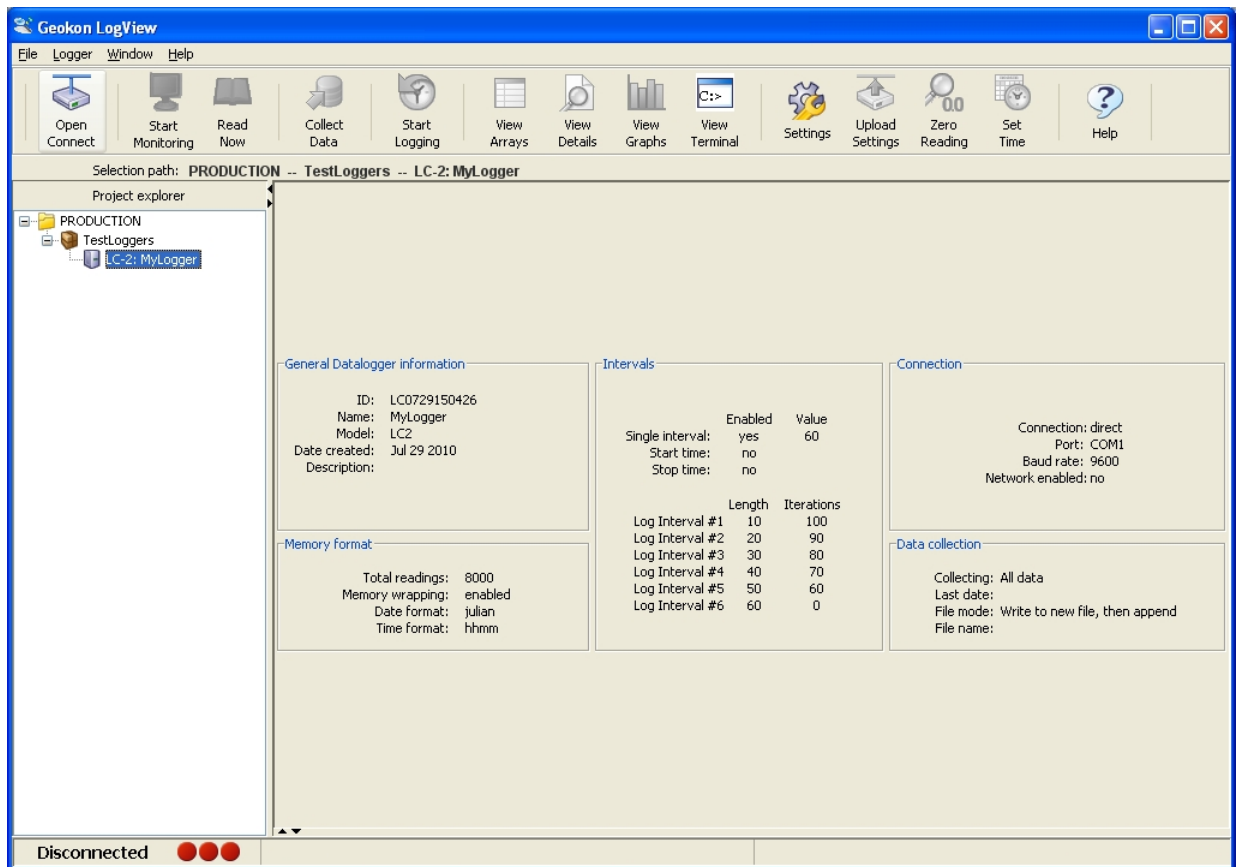

Figure 16 - Datalogger Highlighted, Not Connected
- 1) With a Datalogger profile configured and selected in the Project Explorer (see Figure 16 above), click on the “**Open Connect**” button on the LogView Toolbar.